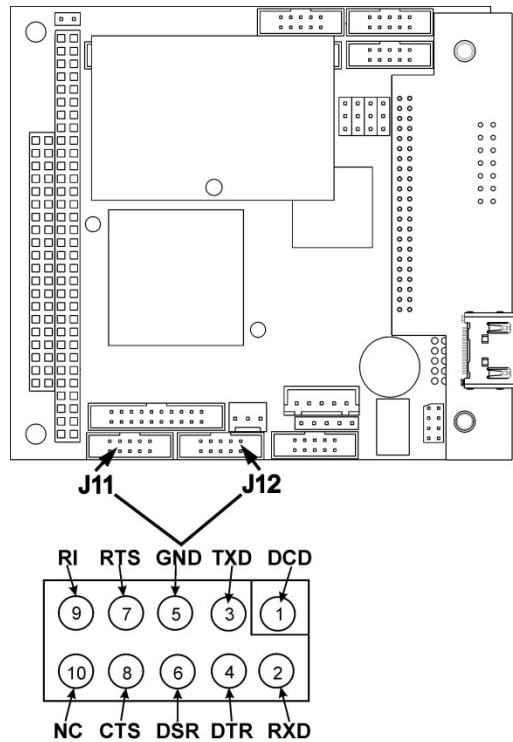

Figure 2-12. Default Pin Assignments for CPU COM Port Connector (RS-232)
The signals from these two connectors are routed from the motherboard via a wiring harness to two 10-pin connectors on the CPU card, J11 and J12 (Figure 2-12).
- On the rear panel of each analyzer, adjust the DCE DTE switch so that the green and the red LEDs (RX and TX) of the COM1 connector (labeled RS232) are both lit. (Ensure you are using the correct RS-232 cables internally wired specifically for RS-232 communication; see Figure 2-12).